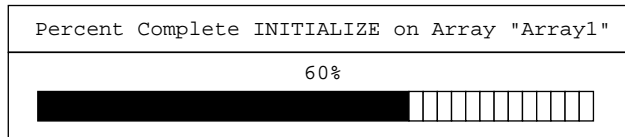

Figure 3-3. Graph of Initialization Process
- 12 A message appears indicating that the initialization process has started successfully. Press **Esc** to dismiss this message. If you wish, you can press **Alt-Esc** to view a graph showing the progress of the initialization process, as shown in Figure 3-3.
- 5 A message appears indicating that the initialization process has started successfully. Press **Esc** to dismiss this message. If you wish, you can press **Alt-Esc** to view a graph showing the progress of the initialization process, as shown in Figure 3-3 on page 3-6.